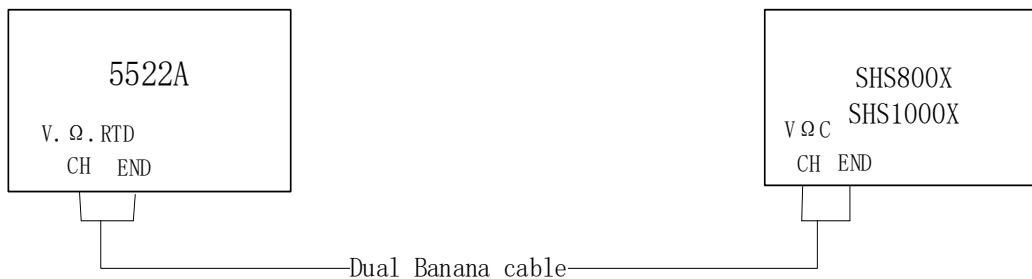

Figure 10 Connecting test instruments for meter's DCV/ACV/RES/CAP
**Note:** “CH” and “END” in Figure 10 of the 5522A represents voltage/resistance/capacitance output of the 5522A with a dual banana cable connect to the “VΩC” input of the scope meter mode.